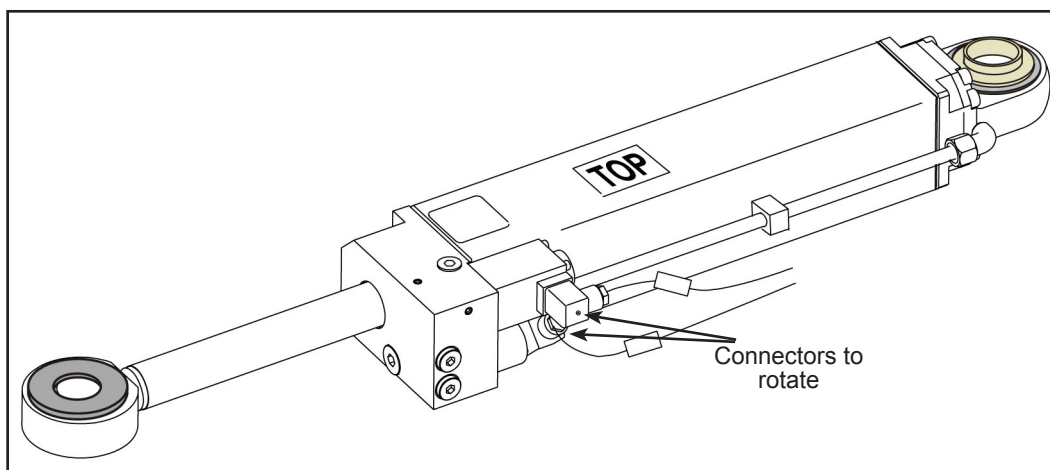

Figure 7 - Street side Damping Cylinder, Location of the Connectors
- 1.10. Repeat steps 1.1 to 1.8 for the connectors located on the streetside damping cylinder. Use Figures 7 and 8 as a reference for the adjustment.